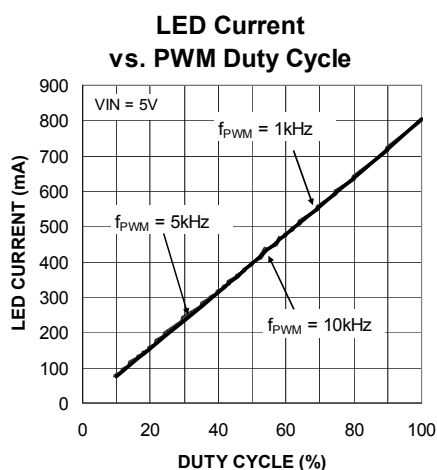
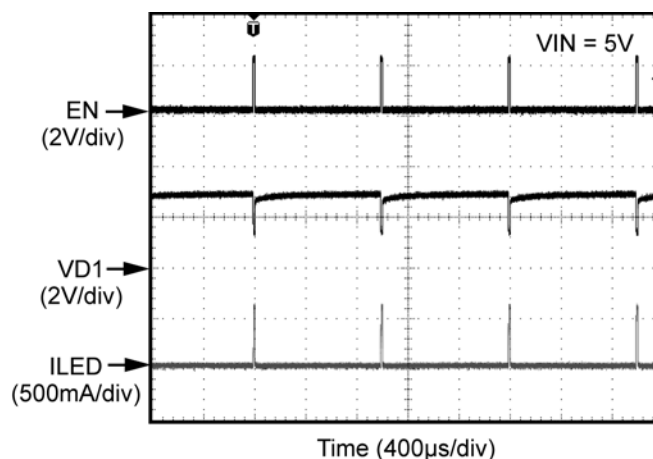

Figure 3. Average Current per LED Dimming by Changing PWM Duty Cycle for PWM Frequencies up to 20kHz
Figure 6. PWM Signal at 1% Duty Cycle ( $I_{avg} = 6\text{mA}$ )
WLED dimming is achieved by applying a pulse width modulated (PWM) signal to the EN pin. For PWM frequencies between 200Hz – 10kHz the MIC4801 supports a duty cycle range from 1% to 100%, as shown in Figure 3. The MIC4801 incorporates an internal shutdown delay to ensure that the internal control circuitry remains active during PWM dimming. This feature prevents the possibility of backlight flickering when using low frequency PWM control signals. The MIC4801 also supports Ultra Fast PWM™ frequencies from 20kHz to 500kHz. Due to input signal propagation delay, PWM frequencies above 20kHz have a non-linear relationship between the duty cycle and the average LED current, as shown in Figure 3 and 4. Figures 6 through 9 show the WLED current response when a PWM signal is applied to the EN pin (1).